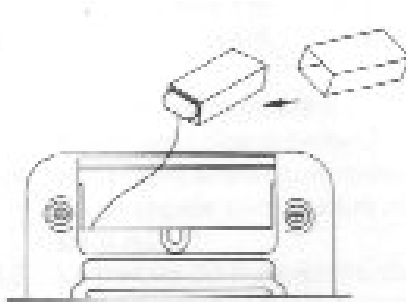

FIG. 2
- To insert the new battery into the vane (FIG.2)